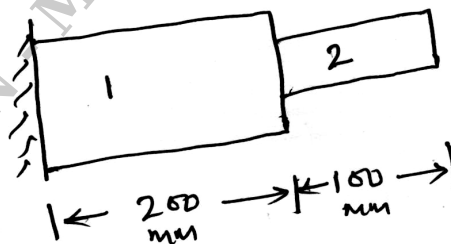

Fig Q10
- 10 For the stepped bar shown in Fig Q10, determine the Eigen values and Eigen vectors. Take $A_1 = 400 \text{ mm}^2$, $A_2 = 200 \text{ mm}^2$, $\rho = 7850 \text{ kg/m}^3$, $E = 200 \text{ GPa}$.